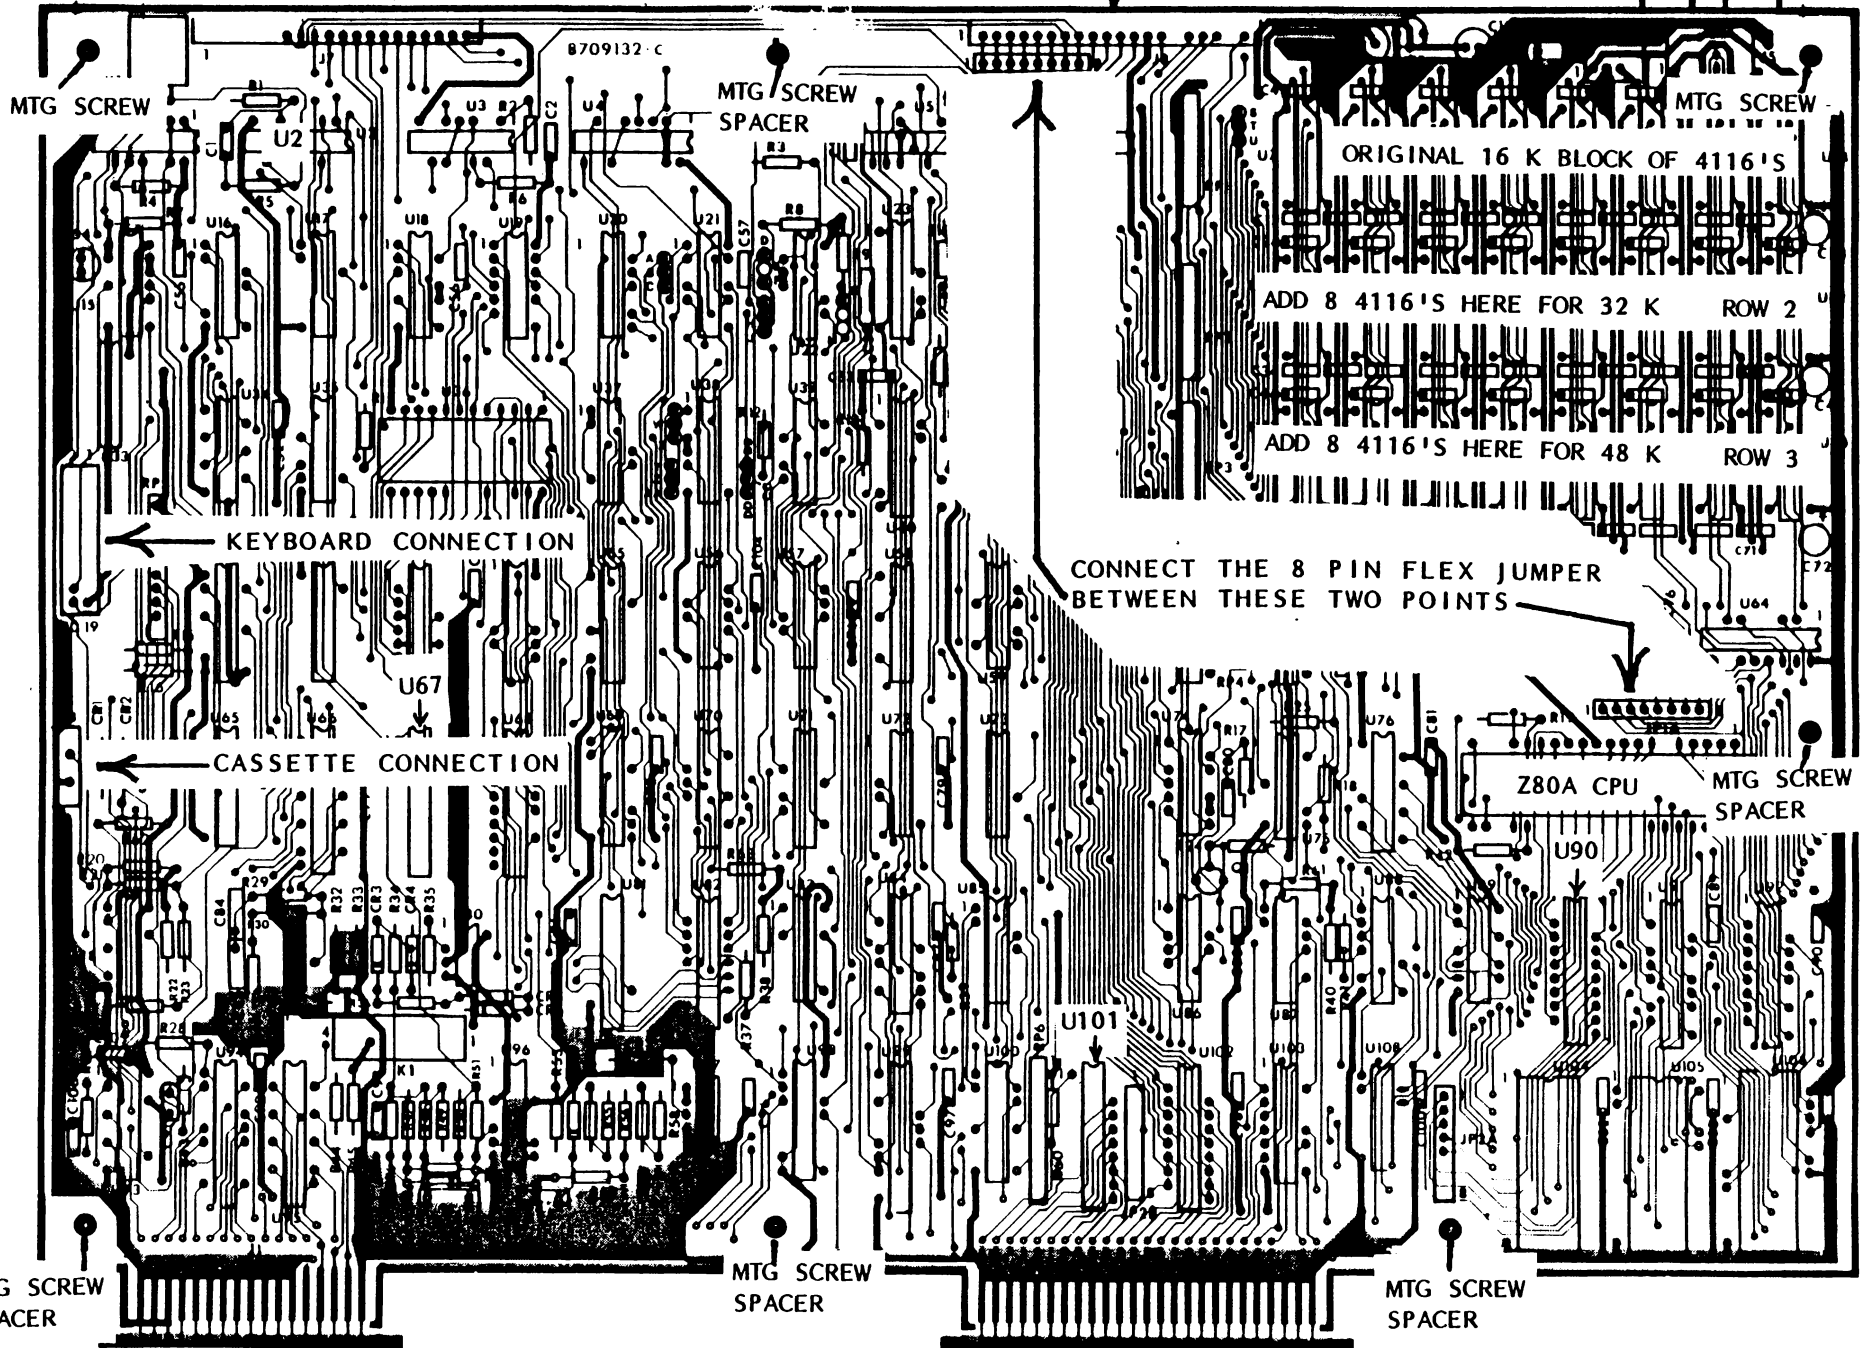

FIGURE 1.10.1 CPU PRINTED CIRCUIT BOARD
### 1.3.0 CPU BOARD REMOVAL - REFER TO FIGURE 1.10.1
- b. **REFER TO FIGURES 1.10.1 and 1.10.3 (MODEL-III ONLY) FOR THE LOCATION OF THE ADDITIONAL MEMORY CHIPS AND THE PROPER ORIENTATION OF THE 4116 CHIPS.** Instructions for adding 64K of RAM to your Model-IV are included with our Model-IV memory upgrade kit.
- c. Insert each memory chip into the socket as per **FIGURES 1.10.1 and 1.10.3**. Make certain that each chip seats properly and that you have not bent under any pins during memory installation.
4. Remove the power and video connectors in the upper right corner of the CPU PC board. Refer to **FIGURE 1.10.1** for the location of these connectors.
5. Remove the 20 pin jumper cable going from the RS-232 board (if installed). Refer to **FIGURE 1.10.1** for the location of this connector.
- ✓ 6. Remove the two screws holding the metal clamp against the keyboard cable located on the left end (as viewed from the rear) of the metal chassis. Take precaution when you remove this connector that you do not damage any of the pins or the connector shell (see FIGURE 1.10.1 for the location of this connector). Pull the connector off straight toward you so as not to bend or damage any of the connector pins. You may use a small slot screwdriver to gently pry this connection apart if necessary. Start by pulling gently on the cable assembly until you see some metal pins between the plastic pieces. Insert the screwdriver up against the pins at first one end and then the other, and by gently rotating the blade against both sides of the plastic, pry on the connector until it is easily removed by hand.
- ✓ 7. Remove the cassette port connector located just below the keyboard connector on the CPU PC board (see FIGURE 1.10.1 ).
8. Remove the screws that hold the CPU PC board to the vertical metal chassis. In the current version Model-III, there are seven (7) machine screws holding the CPU PC board to the chassis.
NOTE: While you are removing the CPU PC board, carefully examine between each screw and the Metal Chassis to determine whether or not there is a small flat plastic insulator between the PC board and the Metal Chassis. Please refer to FIGURE 1.10.1 for the location of these spacers. **SOME VERSIONS OF THE MODEL-III DO NOT HAVE THESE SPACERS.** Make certain that you correctly reinstall the spacers during reassembly of the computer after completion of the installation procedure if they were included with your Model-III. **FAILURE TO REPLACE THESE SPACERS IN THE PROPER LOCATIONS WILL RESULT IN SHORTING OUT SOME OF THE DISK CONTROLLER INTERFACE CIRCUITRY, AND THE CONTROLLER MAY NOT WORK.** Put these screws and spacers in a safe place so that you will not lose them.
6. Connect the free end of the 20 position Flex jumper on the FDC-3 controller to J7 on the Model-III PC board. Refer to FIGURE 1.10.1 to locate J7 on your CPU card. Take extra precaution when performing this step to make certain that each pin of the cable is lined up with the metal contacts of the connector. Once installed, you may put two creases in the jumper cable to make the installation neat. If this connector is properly mated, you should be able to tug gently on the cable and it should resist your attempts to remove it from the black connector. PLEASE NOTE: it is very easy to misalign the cable in the connector. The improper mating of this cable is the principal reason that some people have difficulty making the controller operate properly upon power up.
7. Refer to FIGURE 1.10.1 for the proper location and connect the 8 position Flex Jumper (supplied only with optional accessories kit) as shown. This jumper connects the required address and data lines to the disk controller and RS-232 bus connectors. Make certain that you connect pin 1 to pin 1. You may crease this cable as necessary to neaten up the installation. If you have an RS-232 board installed in your computer this jumper will already be installed. MODEL-IV USERS NOTE: THIS JUMPER IS NOT REQUIRED AND MAY BE DISCARDED.